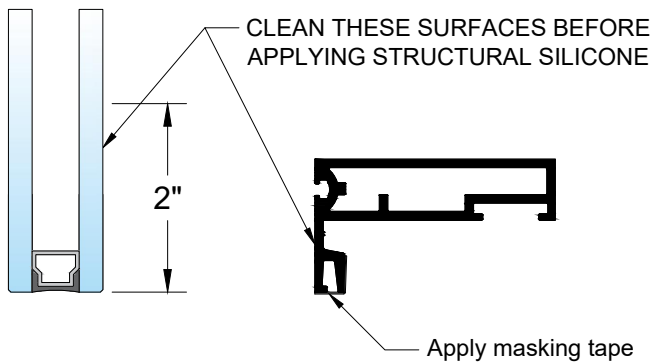
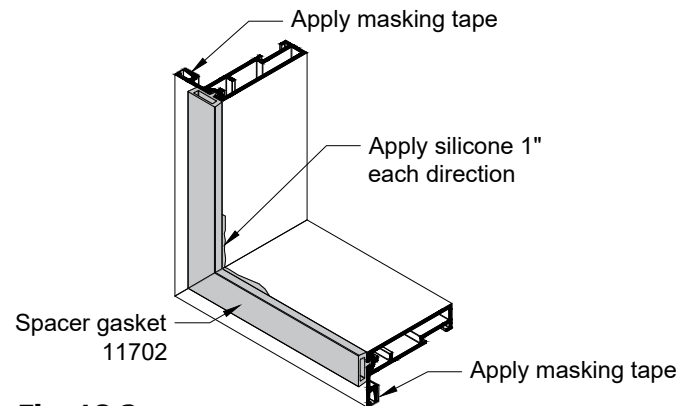

Fig. 18.1
Fig. 18.2
2. Clean the surfaces that will contact the structural silicone using an approved cleaner and the two-cloth method. See **Fig.18.1**
4. Apply masking tape to the area shown to prevent silicone filling the glass support groove. See **Fig 18.1 & Fig. 18.2**